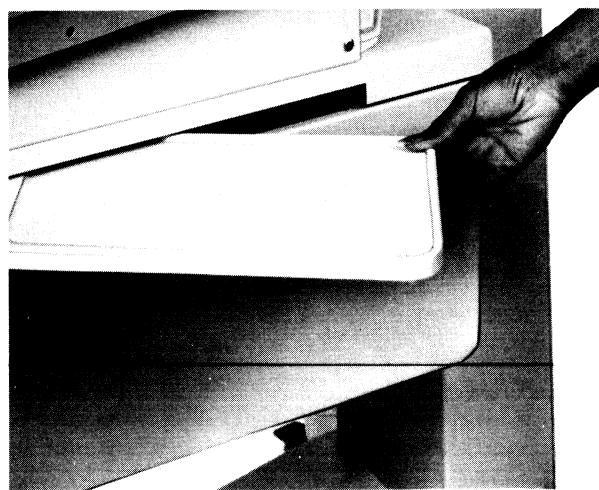

FIGURE 2.9 CHECKING THE INSTRUMENT TRAY
7. **CHECK THE INSTRUMENT TRAY (ACCESSORY)** in Figure 2.9 by swinging it out from under the Bassinet.